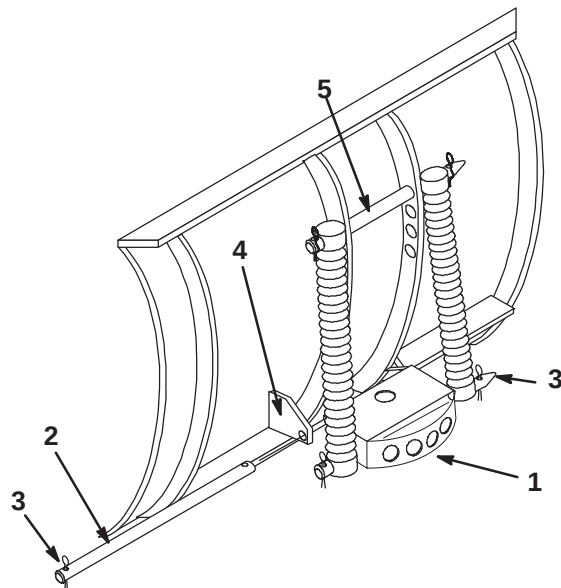

Figure 4
1. Lift and rotate the channel assembly (Fig. 4) so that the holes align with the lower blade mounts.
2. Slide the rod through the holes and secure it with two cotter pins (1 inch) (Fig. 4).